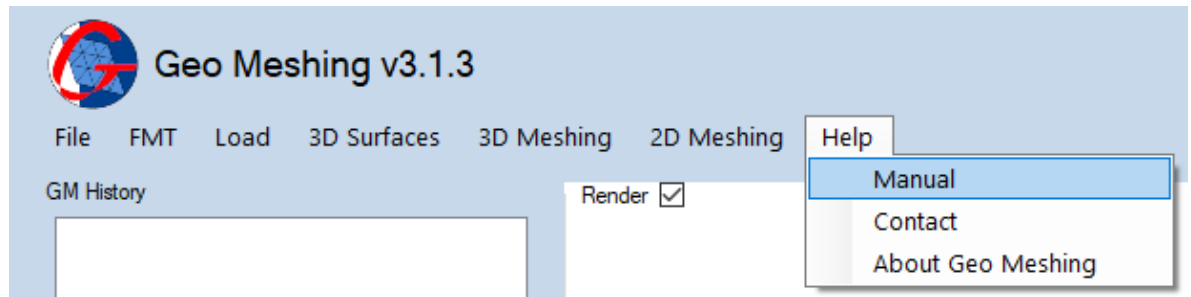

Figure 33: Help Strip Menu – Manual.
- **Help Menu, Manual:** This option (shown in Figure 33) opens this manual.